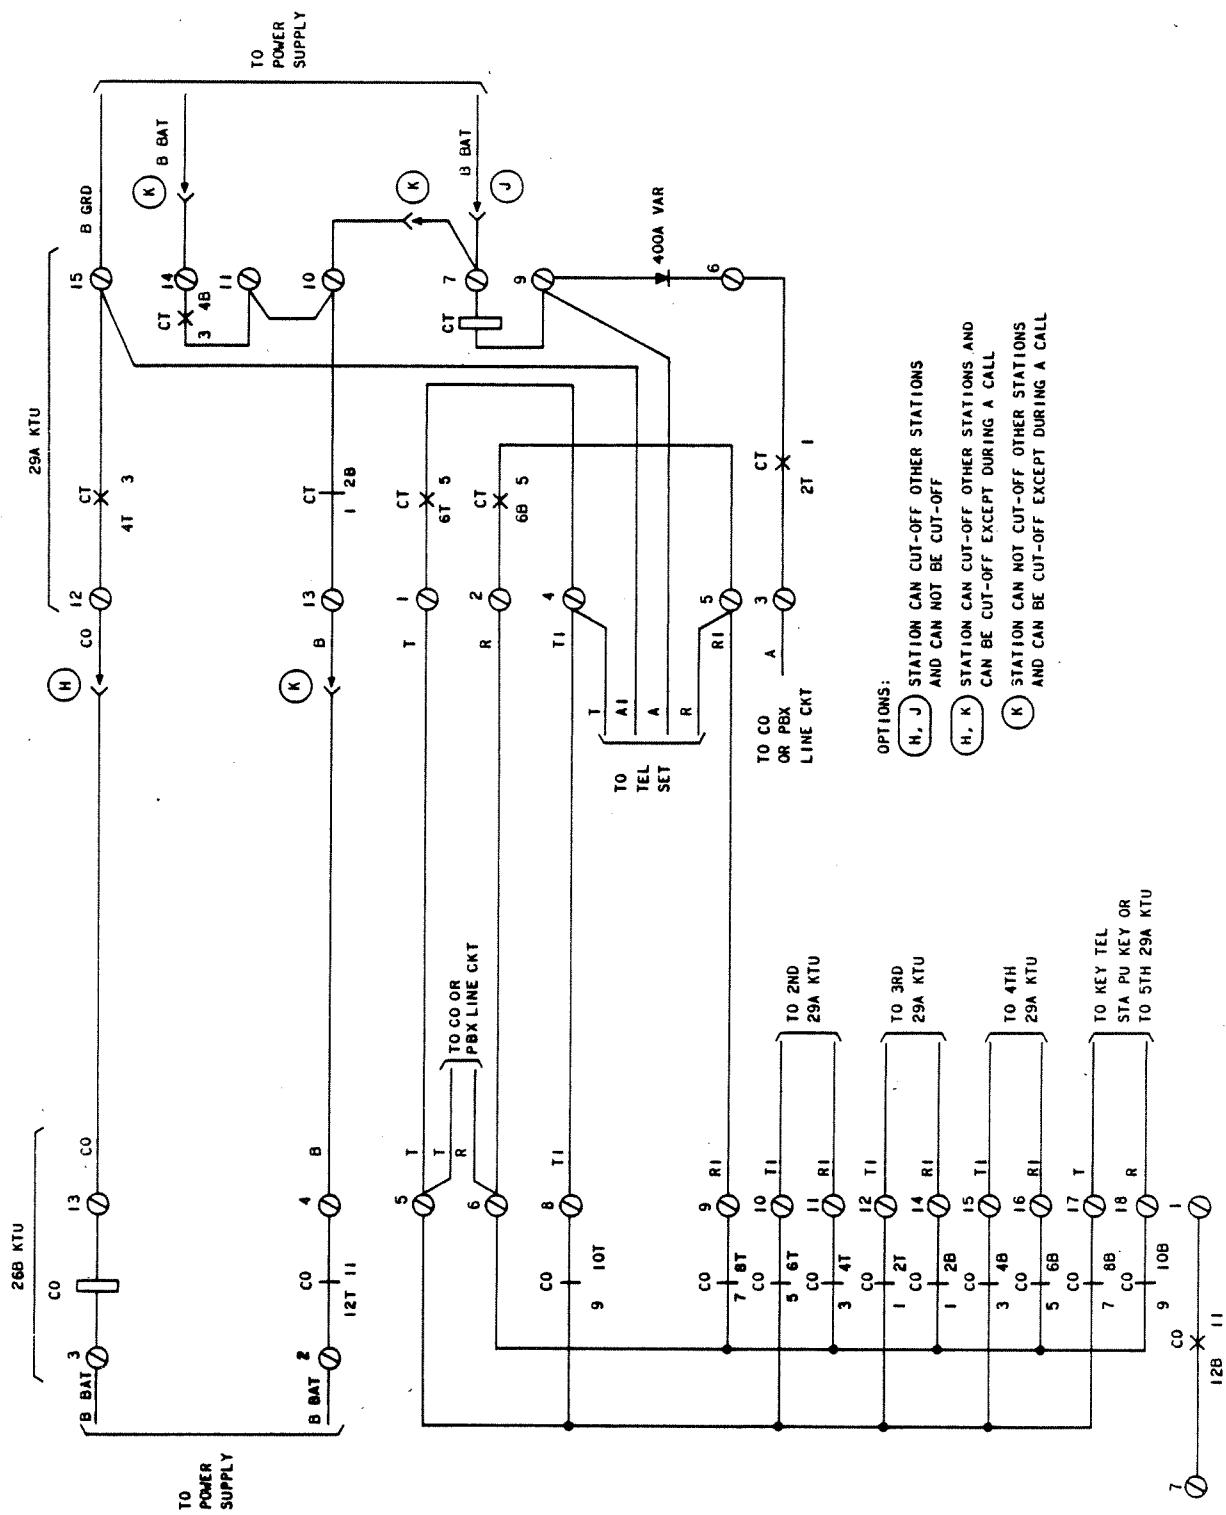

Fig. 17—Functional Schematic of 26B KTU (Automatic Cutoff Circuit) and 29A KTU (Cut Through Relay Circuit)
2.27 The 26B KTU (Fig. 17) disconnects cutoff stations from CO or PBX lines under control of the 29B KTU. One 268 KTU will serve five cutoff stations.
2.28 The 29A KTU (Fig. 17) is used to provide manual cutoff on CO or PBX lines.